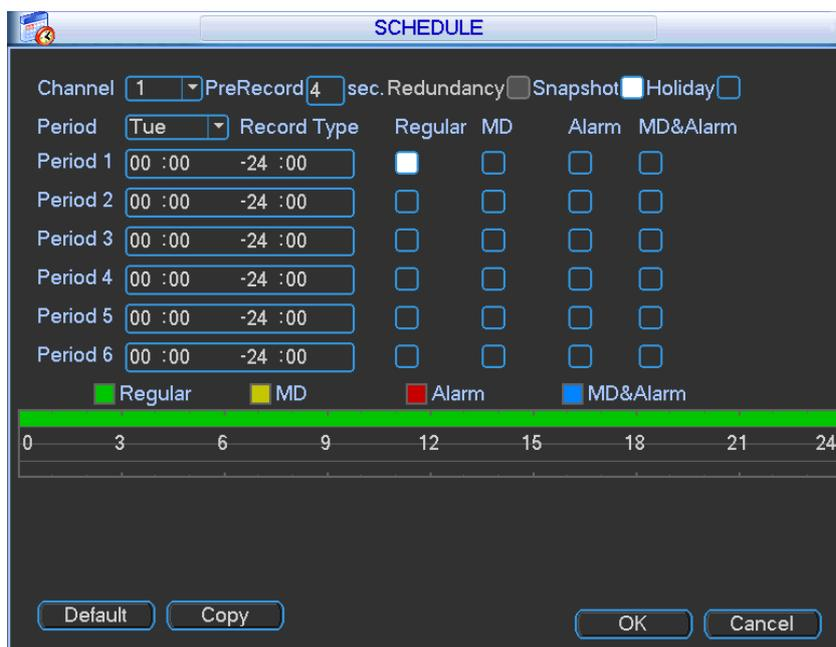

Figure 5-36
In the main menu, from Setting to Schedule, you can go to schedule menu. See Figure 5-36.
From Main menu->Setting->Schedule, go to the Schedule interface. See Figure 5-36.
From Main menu->Setting->Schedule, you can see Figure 5-36.
- f) From Main menu->Setting-Schedule. See Figure 5-36
- g) Set motion detect record channel, period and the record type shall be motion detect (MD). Please refer to chapter 5.6.2.
- d) From Main menu->Setting->Schedule, you can go to Figure 5-36.
- b) From Main menu->Setting->schedule, you can go to Figure 5-36 to enable snapshot function.